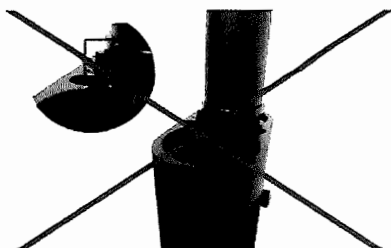

Fig. 34
12. Make sure the Pin-1 grips the magazine-receiver nut as shown on (Fig. 34)